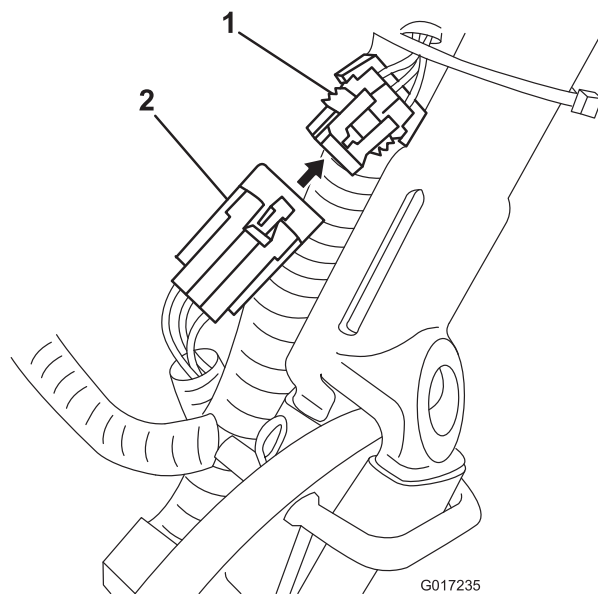

Figure 14
3. Disconnect the small connector on the pack to machine wiring harness from the main wiring harness (Figure 14).
- Route the pack to machine wiring harness under and behind the main harness on the left side of the machine and connect the small, 6-pin connector on the harness to the matching connector on the main wiring harness as shown in Figure 14.